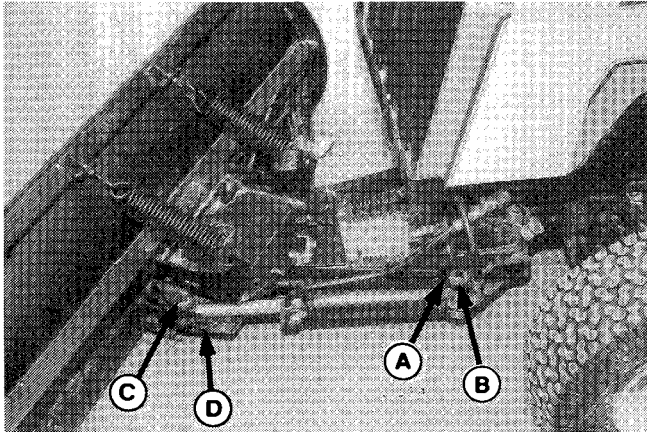

Figure 13.
- Install the two male fittings (A).
- Connect the two hoses by installing 90° tube ends (B) onto the male fittings. To be sure the hoses are properly indexed, position as follows. With cylinder positioned so that rear mounting hole (C) is straight up and down, the tube ends should be positioned so that hoses are straight up.
5. On the rear hose, install the elbow (D) pointing in opposite direction of the elbow attached to cylinder. Then, install the connector onto the elbow.
6. Install the other connector (E) onto the front hose.
- a. Install cotter pin (A, figure 13) in one end of pin (B). (Pin (B) should have holes in each end.)